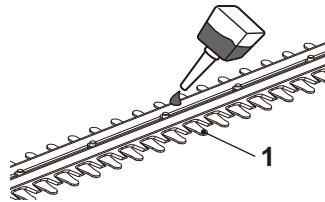

Fig. 11
10. Lubricate the internal surfaces of the blade if the cutting device (blade) (1) overheats during operation (Fig. 11).
1. Keep the cutting device (blade) (1) clean and free of debris. Remove trimmings with a brush.
2. Apply a small amount of suitable lubricant on the cutting device (blade) to retain a good cutting performance (Fig. 11).